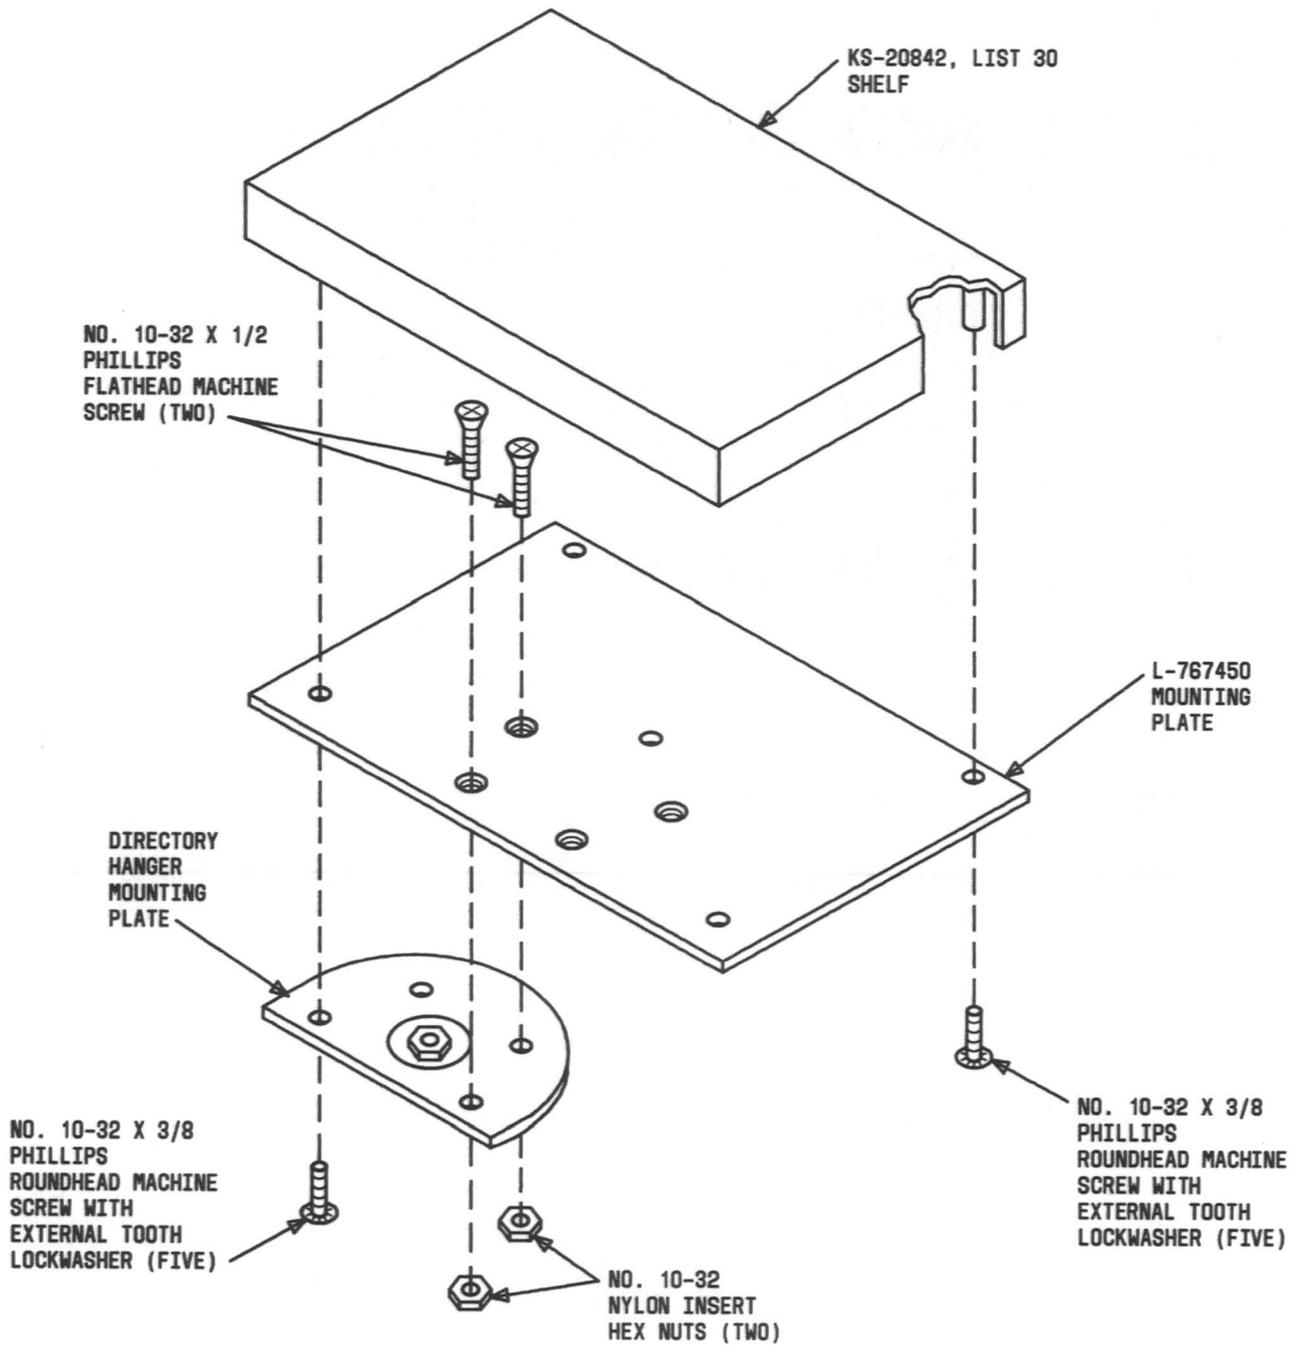

Fig. 21—Installing a KS-20030, List 10 Directory Hanger to a KS-20842, List 30 Shelf
- 3.06 Install a KS-20030, List 10 directory hanger on a KS-20842, List 30 shelf as shown in Fig. 21.